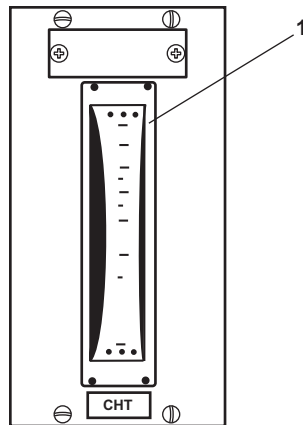

Figure 7. CHT Tank Level Indicator
11. Monitor the sewage level in the sewage holding tank by checking the tank level indicator (figure 7, item 1) in the AMS 1 to prevent the sewage discharge pump from running dry.